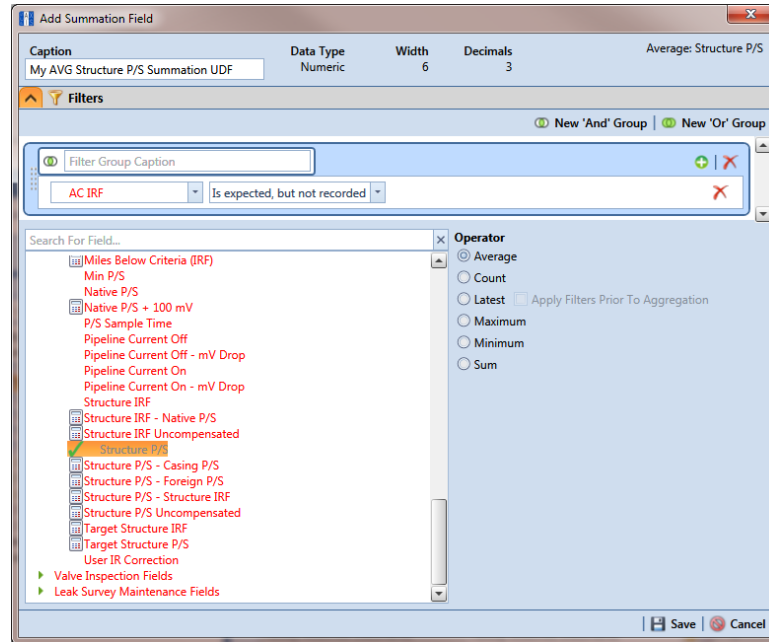

Figure 3-64. New 'And' Filter
- b** Click  **New 'And' Group** to open the filter properties group box (Figure 3-64, page 116).